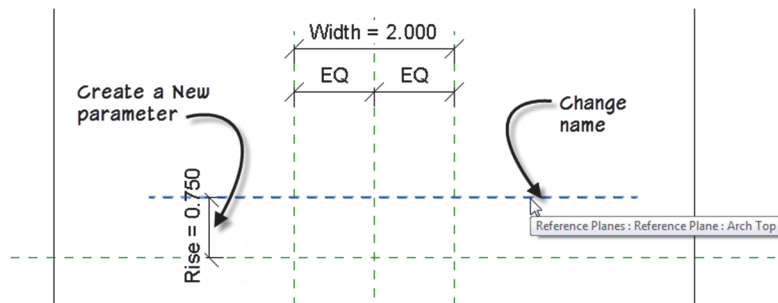

FIGURE 4.22
7. Flex the family to ensure everything is working. Set the Rise to: **0.750** (see Figure 4.22).